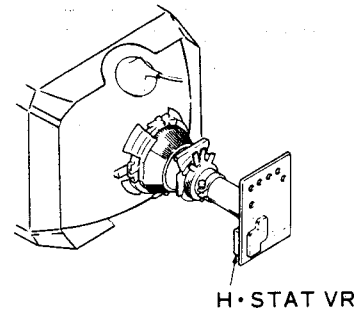

Fig. 3-6
3. Overlap the R and B dots in a horizontal direction in the center of the picture using the H-STAT VR knob. (See Fig. 3-6.)